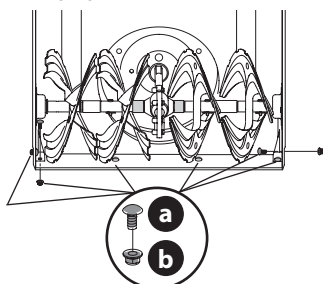

Figure 72
3. Remove carriage bolts (a) and hex nuts (b) which attach it to auger housing (Figure 72).
4. Reassemble new shave plate, making sure heads of carriage bolts are to the inside of housing. Tighten securely (Figure 72).